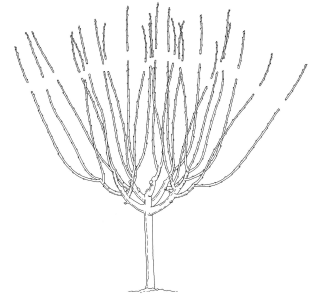

Figure 8
- Leaders on moderately or highly productive varieties of semi-vigorous rootstocks and highly productive varieties of full-sized rootstocks must be tipped. Remove a quarter of the new growth to balance the leaf-area-to-fruit ratio and produce high-quality fruit (Figure 8).
- If the tree is not yet 8 feet tall, remove a quarter of the new shoot growth from each leader (Figure 8).